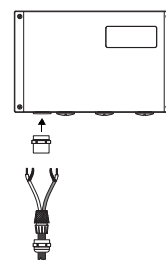

Fig. 5.7: Connection to the transmitter
- Remove the left blind plug for the connection of the transducers (see Fig. 5.7).